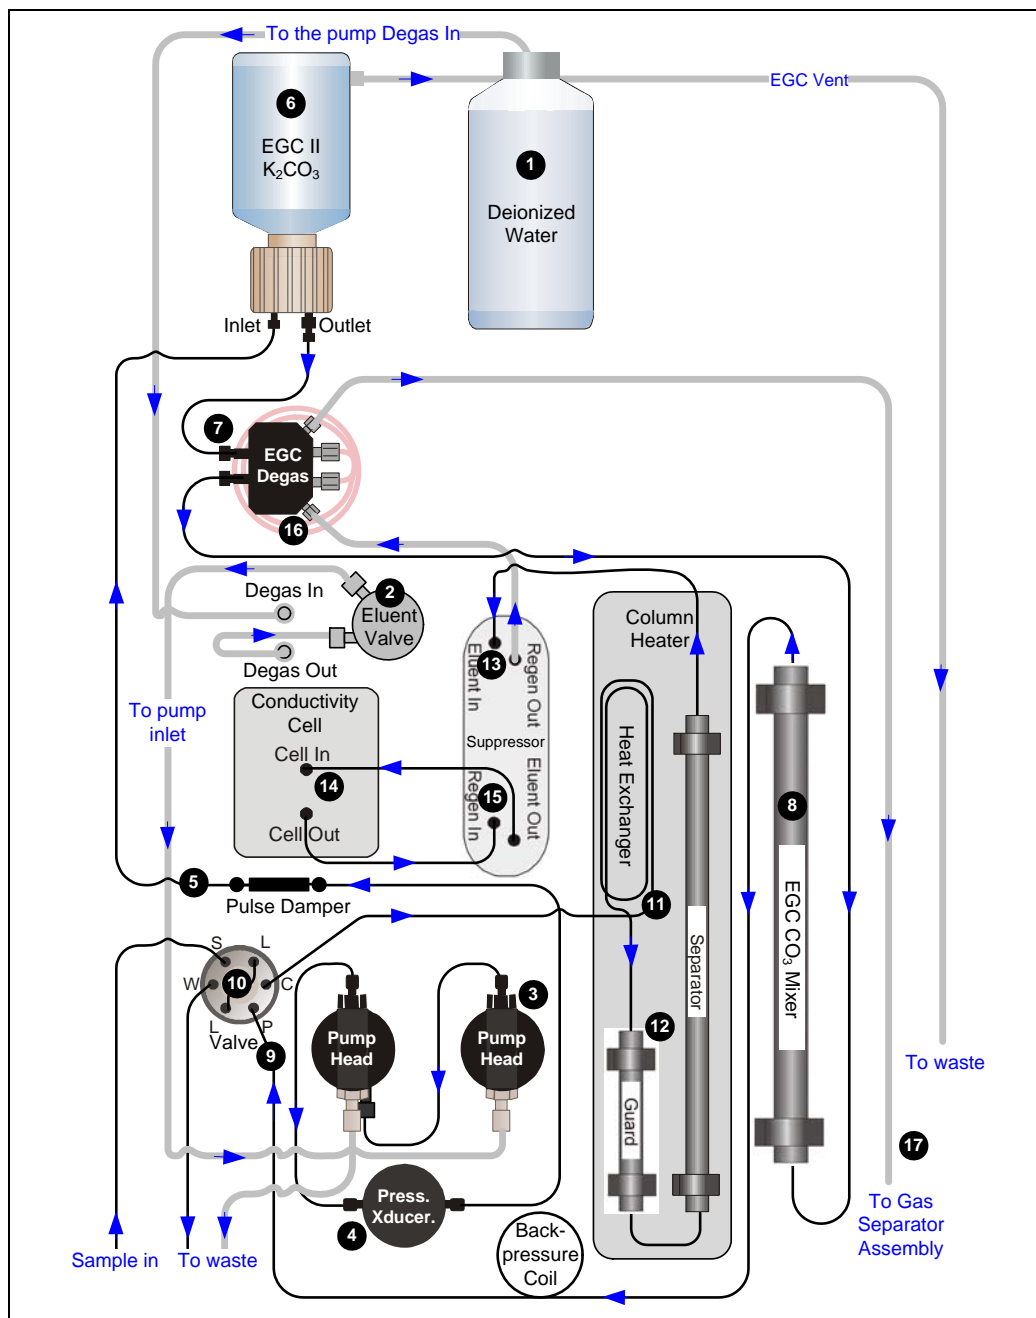

Figure 2-12. Dionex ICS-2100 Flow Schematic: Carbonate Eluent Generation
- Figure 2-12 illustrates the liquid flow path when the components required for producing carbonate eluent are installed. The required components include a Dionex EGC II K₂CO₃ EluGen Cartridge and a Dionex EGC CO₃ Mixer.
Refer to Figure 2-12 for the flow path number locations.